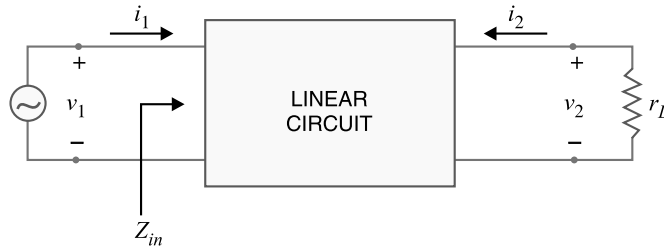

Fig. 22.7
(i) **Input impedance.** Consider a linear circuit with a load resistance  $r_L$  across its terminals as shown in Fig. 22.7. The input impedance  $Z_{in}$  of this circuit is the ratio of input voltage to input current *i.e.*
Now,  $i_2 = h_{21} i_1 + h_{22} v_2$  in terms of  $h$  parameters. Further from Fig. 22.7, it is clear that  $i_2 = -v_2/r_L$ . The minus sign is used here because the actual load current is opposite to the direction of  $i_2$ .
(ii) **Current Gain.** Referring to Fig. 22.7, the current gain  $A_i$  of the circuit is given by ;
**(iii) Voltage gain.** Referring back to Fig. 22.7, the voltage gain of the circuit is given by ;